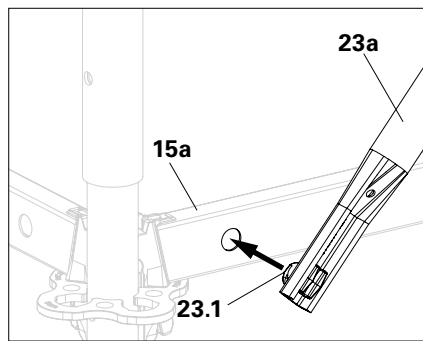

Fig. A4.07a
1. Bring the ledger diagonal up to the ledger at an angle of approx. 45°. (Fig. A4.07a)